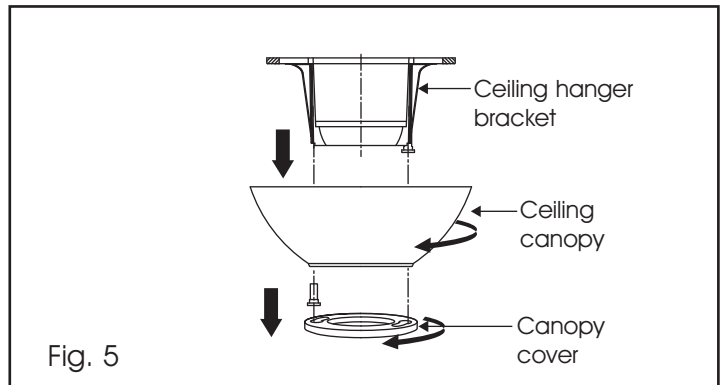

Fig. 5
Step 1. Remove the decorative canopy bottom cover from the canopy by turning the cover counter clockwise. (Fig. 5)
Step 2. Remove the hanger bracket from the canopy by removing the 1 of 2 screws from the bottom of the hanger bracket and loosening the other one a half turn from the screw head. Next, turn the canopy counter clockwise to removing the hanger bracket from the canopy. (Fig. 5)